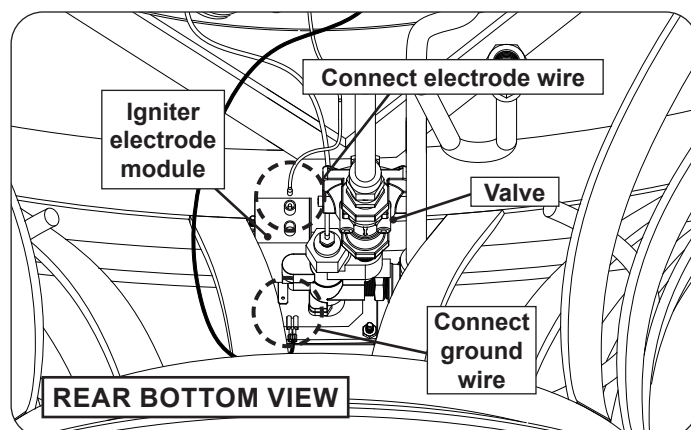

Fig. 37-4 Connect wires to electrode module
8. Locate the electrode wire and connect it to the round-pin terminal found on the back of the igniter electrode module. Then locate the ground wire and connect it to the 1/4" quick connect found on the side of the igniter electrode module (just behind the plate). See Fig. 37-4.